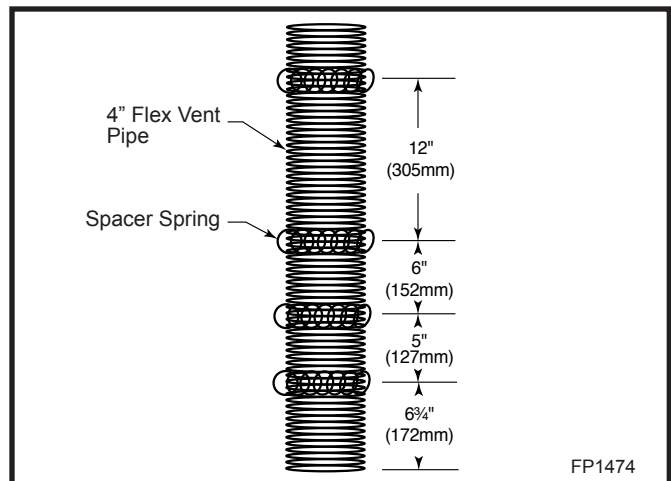

Fig. 24 Install spacer springs.
Install the four (4) spacer springs on the 4" flex vent pipe. When installing the spacer springs around the 4" pipe, stretch the spring to approximately 15" (381 mm), wrap the spring around the pipe and interlock the ends of the spacer spring approximately 2" (51 mm). Measure 6¾" (172 mm) from the end of the pipe. Place the next spring 5" (127 mm) from the previously installed spring. Place the next spring 6" (152 mm) from the last spring. Finally place the last spring 12" (305 mm) from the last spring installed. (Fig. 24)